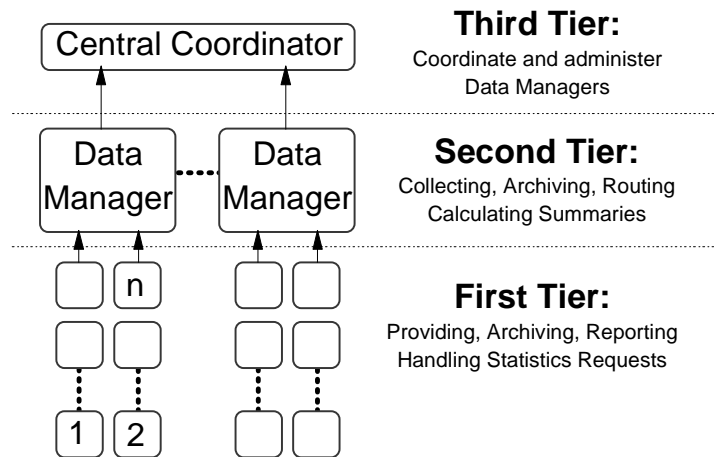

Figure 119. PTPE Monitoring Hierarchy
- **SP runtime monitoring.** The system administrator should have a global view of SP performance behavior. With reference to Figure 119 on page 302, similar nodes of the first tier, or Collectors, can be grouped and their performance data summarized by their respective Data Manager node in the second tier. This way, large SP systems can be easily monitored from a single presentation application by viewing node groups instead of individual nodes. The Data Managers are administered by the Central Coordinator in the third tier. The Central Coordinator aggregates the Data Managers' summary data to provide a total performance overview of the SP. Of course, the base PTX/6000 monitoring functions can be used to focus on any particular performance aspect of an individual node.